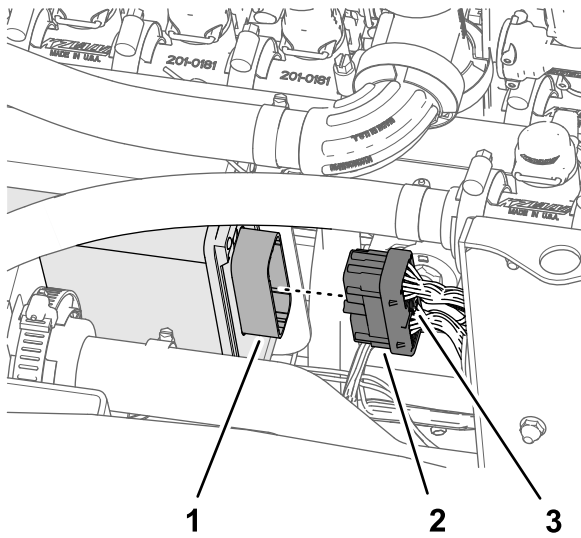

Figure 134
2. Insert the 40-socket connector of the 102 cm (40 inch) branch of the kit wire harness into the 40-pin connector if the ASC 10 spray controller (Figure 134).
3. Thread the thumb screw of the 40-socket connector into the ASC 10 connector by hand (Figure 134).